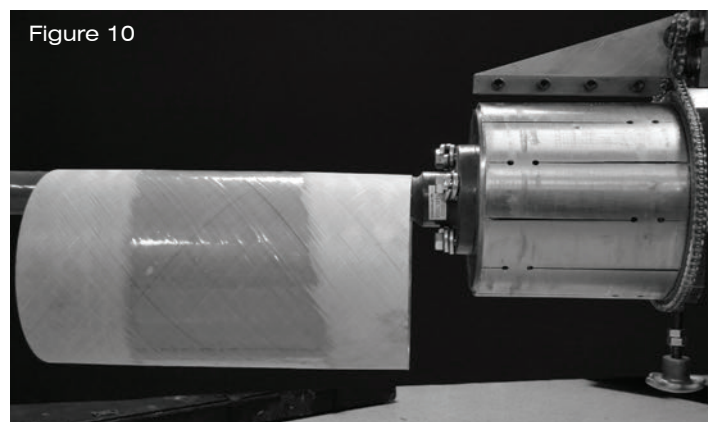

Figure 10
33. Weld a length of 2" steel pipe to a 2" 150 lb. steel flange. Bolt the steel flange to the end plate (four threaded holes in end plate). Slip the nipple to be tapered over the 2" steel pipe and onto the mandrel. Clamp the steel pipe in a vise. The steel pipe will hold the mandrel, and the mandrel will hold the nipple while tapering. (See Fig. 10.)